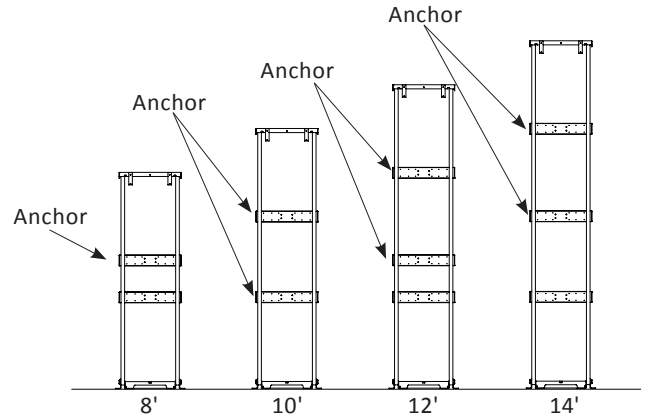

Figure 4-21
1. 8' models must have the lift tower anchored into a solid surface at or above the top cross-brace of the tower frame. 10' or taller models must have the lift tower anchored at two (2) levels into a solid surface at or above the top two (2) tower cross braces. This is to ensure running clearances remain constant. There are two (2) spacers included in the small parts kit that go between the cross brace and back panel to provide a more secure connection to wall. There are two options for anchoring the top of the tower. *See Figure 4-21.*